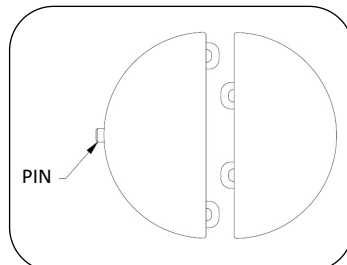

FIG. 1 – COVER PLATE DETAIL
4. Remove socket cover plate and separate halves. Use a flat blade screwdriver to pry up edge opposite cover plate pin, see Fig. 1.